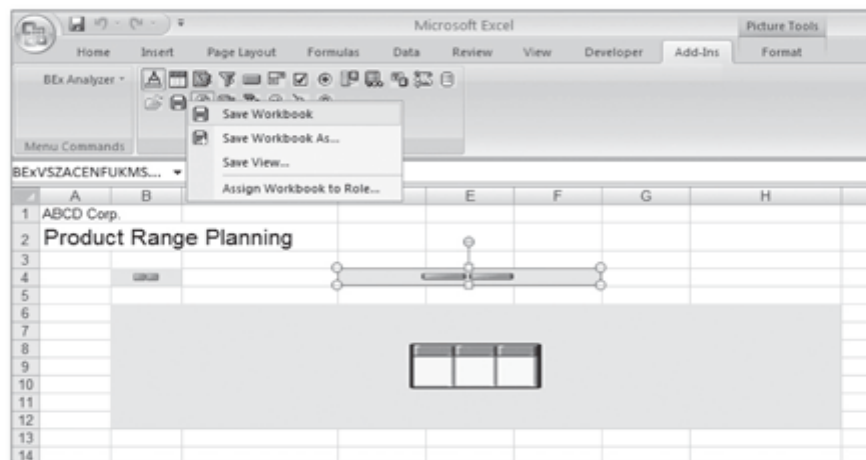

Figure 12.85 Save the Planning Application as a Workbook
14. Your simple application for product range planning at the divisional level is ready. Save the workbook, as shown in Figure 12.85.